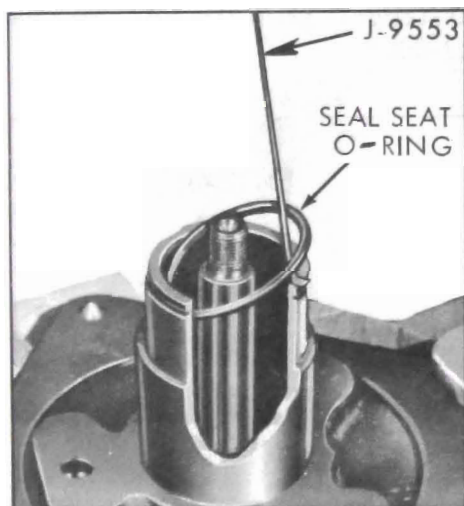

Figure 11-56—Removing Seal Seat O-Ring
8. Take out seal seat “O” ring (see Figure 11-56) from inside hub of front head using “O” ring Remover (J-9553).